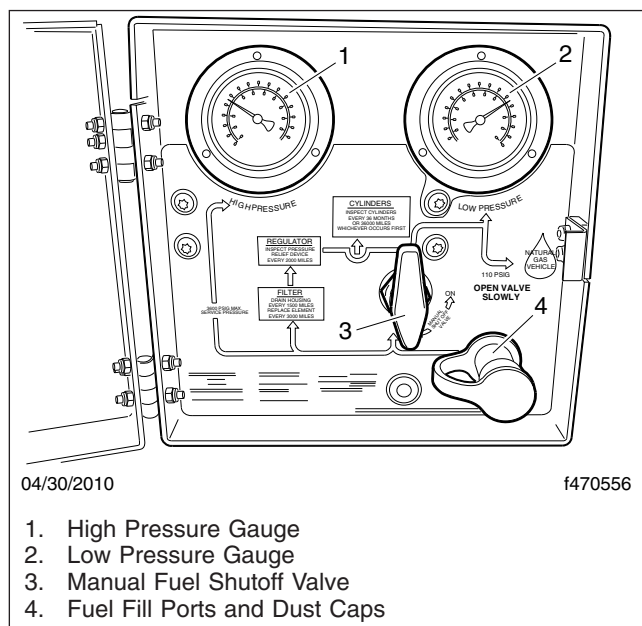
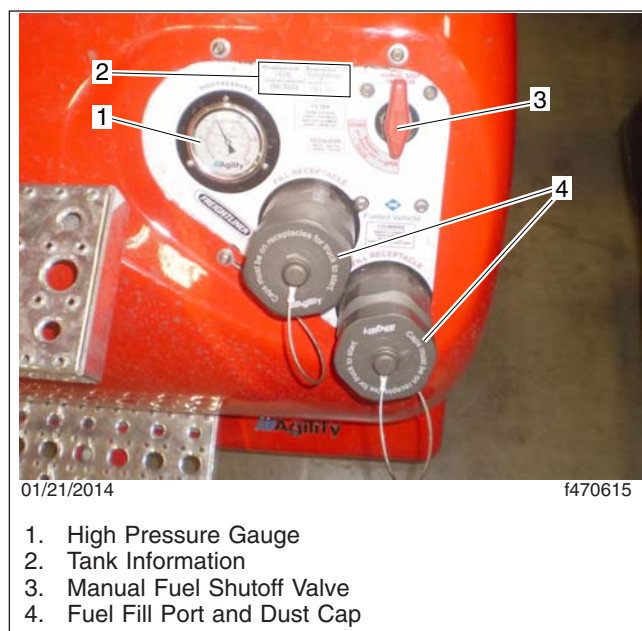

Fig. 12, CNG Fuel Panel (back-of-cab box only)
Fig. 13, CNG Fuel Panel (frame-rail mounted tank)
2. Inspect the fuel fill port for signs of damage, oil residue, or leaks. Ensure the port dust cover and the O-ring inside the port are both present and in good condition. See **Fig. 12** and **Fig. 13**.